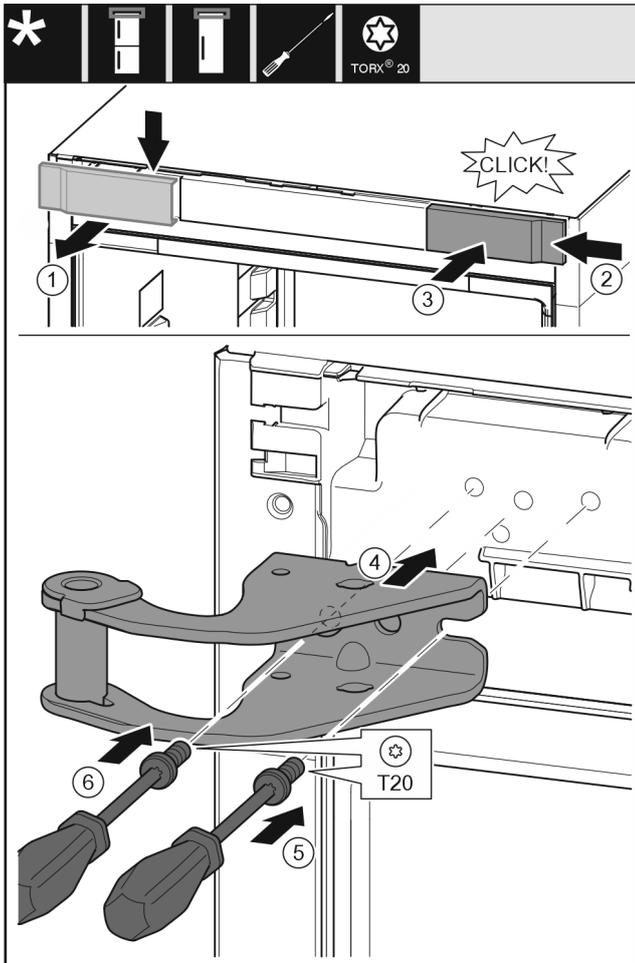

Fig. 12
- ▶ Take off the cover from above to the front. Fig. 12 (1)
- ▶ Rotate the cover 180° and clip onto the other side from the right. Fig. 12 (2)
- ▶ Latch the cover into place. Fig. 12 (3)
- ▶ Position the upper bearing bracket. Fig. 12 (4)
- ▶ Insert the screw with a T20 screwdriver and tighten it. Fig. 12 (5)
- ▶ Insert the screw with a T20 screwdriver and tighten it. Fig. 12 (6)